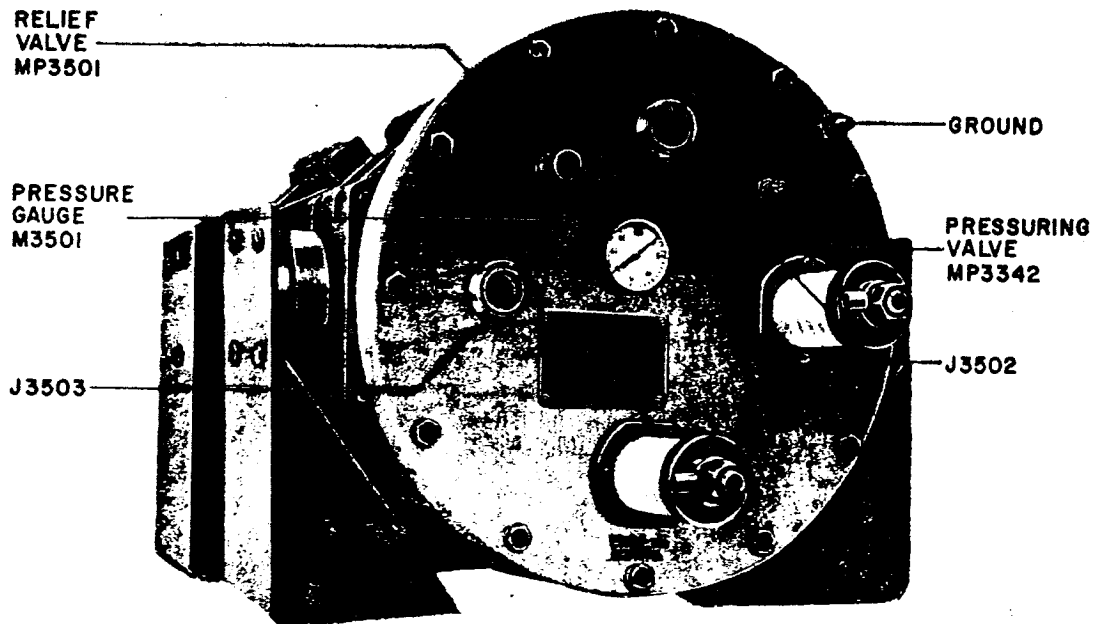

Figure 2-5. Antenna Coupler CU-760/WRT-1, Pressurizing Adjustments
Step 16. Refer to figure 2-5 and open relief valve MP3501.
Step 19. Refer to figure 2-5 and connect the air chuck (attached to the other end of No. 9587 hose) to pressurizing valve MP3502.